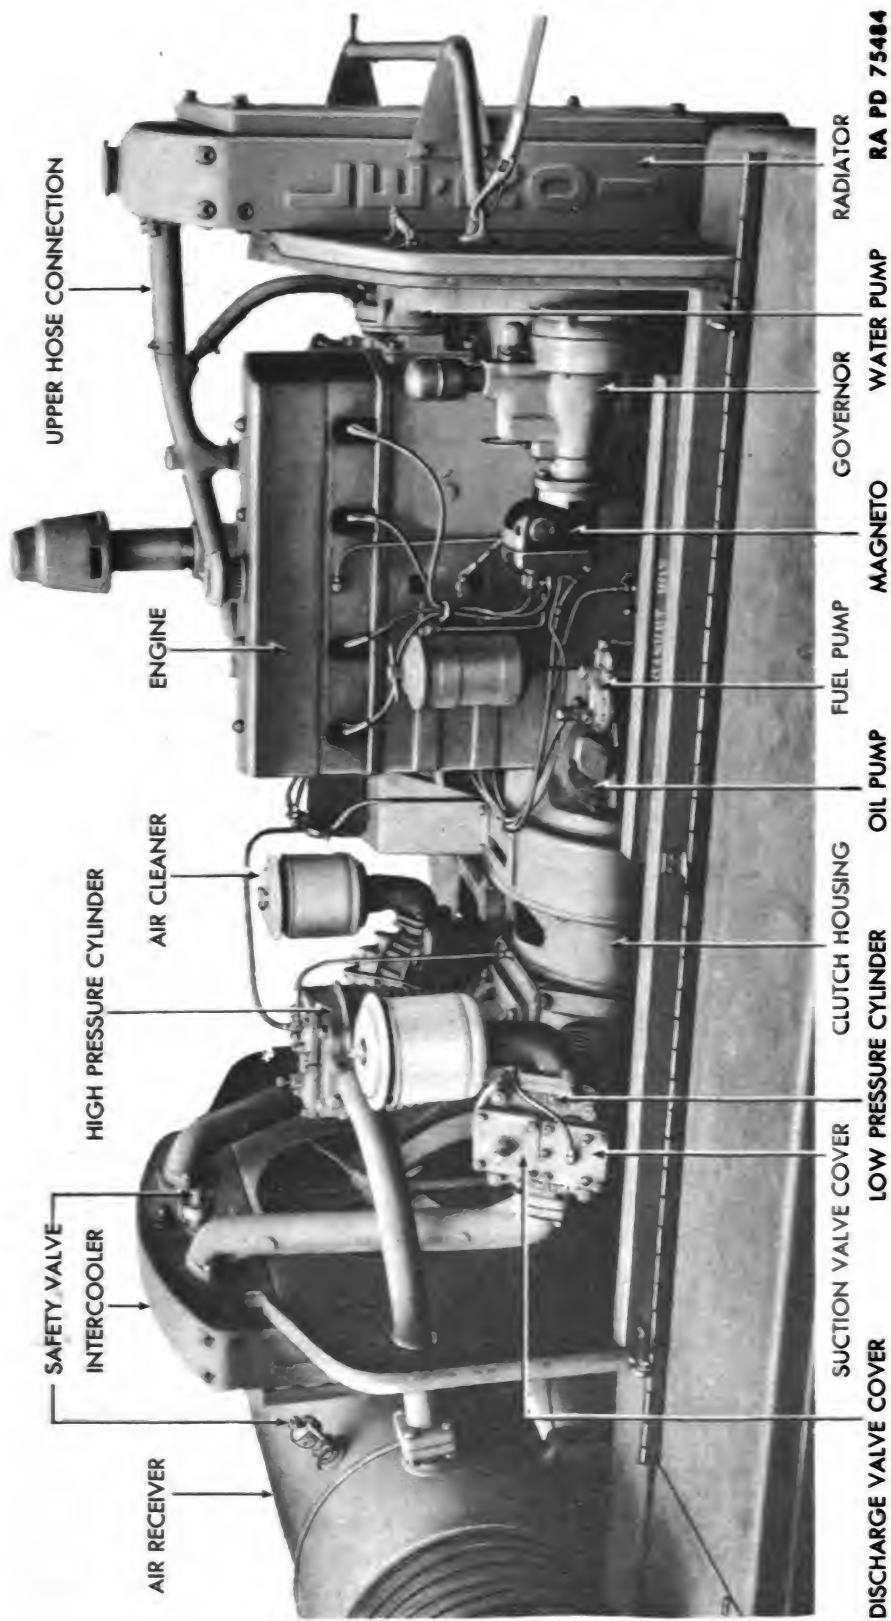

Figure 6 — Compressor Unit From Magneto Side — Hood Removed
(1) **GENERAL** (fig. 6). The air compressor is a 3-cylinder, 2-stage, air-cooled model capable of delivering 105 cubic feet of free air per minute at 100 pounds per square inch pressure at sea level. Two low-pressure outside cylinders compress air from atmospheric pressure to intercooler pressure. One high-pressure cylinder compresses air from intercooler to air receiver.
(2) **AIR CLEANERS** (fig. 6). An oil bath air cleaner is attached to each low-pressure cylinder. Air drawn from the atmosphere by the low-pressure cylinders, enters through an opening under the top of the filter. It is drawn down through oil in the air filter reservoir and up through the element. Here oil separates from the air and drains back into the bowl, cleaning the element. The cleaned air passes down through the center unit to enter the compressor cylinder. When the compressor unloads, a valve allows air which returns to the cleaner to bypass to the atmosphere without passing through the oil bath.
(3) **CYLINDER VALVES** (fig. 6). Air compressor valves are circular disk type, assembled in cages which are mounted in the cylinder heads in order to be quickly and easily removed without disturbing the cylinder heads. There is no physical difference between suction and discharge valves, valve springs, or seats. The difference in appearance is due to the design of the retaining cages which hold the discharge valve upside down as compared with the suction valve. There is no operating mechanism; the valves allow passage of air through each valve in one direction only. On the down stroke of the piston, air is drawn into the cylinder through the suction valve. On the up stroke of the piston, air is expelled from the cylinder through the discharge valve.
(4) **INTERCOOLER AND AIR RECEIVER** (fig. 6). Air from the low-pressure cylinders is discharged into the intercooler which is mounted between the compressor and the air receiver. The intercooler is a tubular, sectional type, air-cooled radiator which cools air entering the
(5) **SAFETY VALVES** (fig. 6). Two safety valves are provided to prevent trouble if the air pressure should rise above recommended limits. One safety valve is on the intercooler and is set to trip at a pressure of 50 pounds per square inch. The other is on the air receiver and is set to trip at a pressure of 125 pounds per square inch. These valves do not operate when the outfit is functioning properly. If either
c. **Clutch** (fig. 6). The air compressor is coupled to the engine through a manually operated Twin Disc clutch. The clutch is of the spring loaded double plate type which affords maximum plate wear before adjustment is required. The double plates are 11½ inches in diameter.
(1) **GENERAL** (fig. 6). A 4-cylinder valve-in-head gasoline engine drives the air compressor. With a displacement of 318 cubic inches, the engine develops a maximum of 34 horsepower at 865 revolutions per minute. Removable wet type cylinder sleeves are used. Special steel inserts are provided to minimize pitting and wear of exhaust valve seats. Both main and connecting rod bearings are babbitt lined, steel back, precision type.
(2) COOLING SYSTEM.
(b) **Radiator** (fig. 6). A flat tube and fin type radiator is mounted on the front of the unit. Air drawn through the fins by the fan serves to dissipate heat of the coolant circulating through the tubes.
(d) **Thermostat**. A thermostat set to open at 160 F is located in the radiator upper hose connection (fig. 6). It restricts the flow of coolant through the radiator until a desirable operating temperature is attained. A bypass tube is provided to allow the coolant to circulate through the engine only, with the thermostat closed.
(c) *Fuel Pump* (fig. 6). Fuel is forced from tank to carburetor by an a-c, diaphragm type fuel pump. Operation of the pump is as follows: Rotation of a camshaft eccentric actuates a rocker arm which, through linkage, overcomes the diaphragm spring pressure and depresses the diaphragm. This creates a vacuum in the pump chamber and causes fuel from the line to the tank to flow into the sediment bowl, through a screen and through a one-way valve into the pump chamber. On the return stroke, the diaphragm spring returns the diaphragm to its original position. This forces fuel from the pump chamber through a one-way valve into the line to the carburetor. When the carburetor float chamber becomes filled, the float closes a needle valve which prevents more fuel from entering the carburetor.
(f) *Governor* (fig. 6). A governor is provided to control engine speed. It is a flyball, direct acting, mechanical type. It is driven by the camshaft, and drives the magneto. It controls engine speed by opening and closing the carburetor throttle valve. It is adjusted at 865 revolutions per minute maximum, and sealed at the factory.
(b) *Magneto* (fig. 6). An American Bosch model MJC4C-334 magneto, complete with impulse coupling, is provided to produce ignition spark required to provide combustion in the engine cylinders. The magneto is the fixed spark type with one tungsten and one platinum contact point. A switch is provided on the instrument panel to ground the magneto when it is desired to stop the engine.
(5) **LUBRICATION SYSTEM.** A gear type oil pump (fig. 6) ensures full force feed lubrication to all moving parts of the engine. A screen attached to the pump intake stops large particles of foreign matter from entering the oiling system.
(12) Trip intercooler and air receiver tank safety valves (fig. 6) by hand to make certain of their operation.